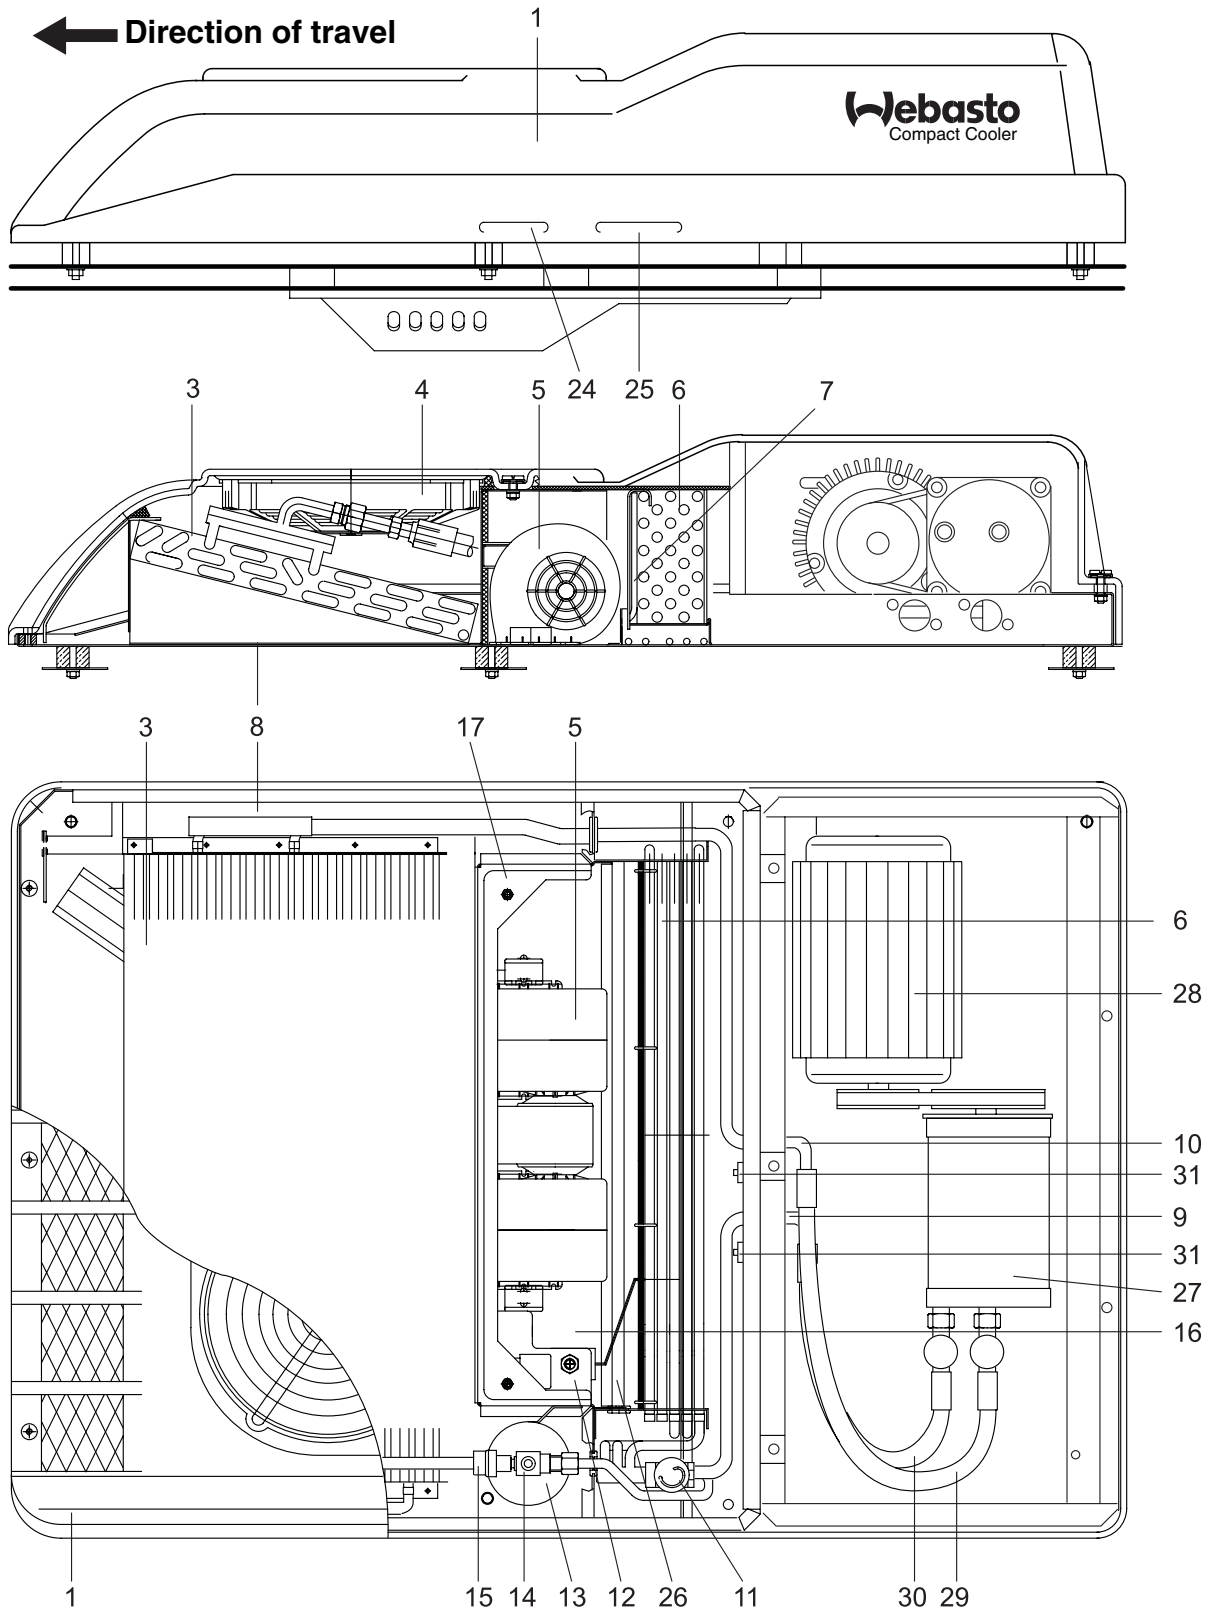
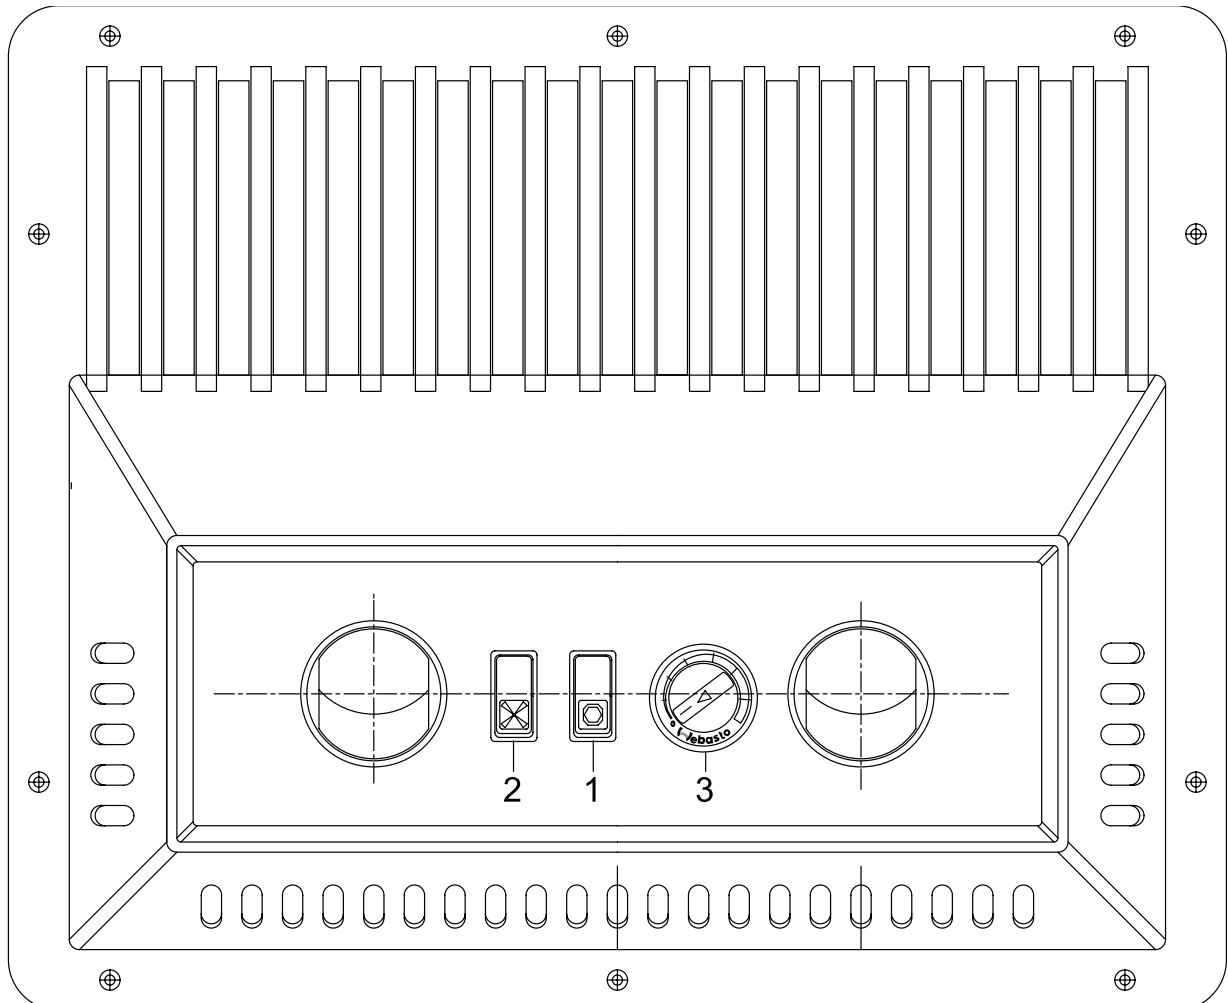

Fig. 2.2
Fig. 2.3
The roof-top unit is shown in Fig. 2.2.
The roof-top air-conditioning system is supplied with air distribution panel (Fig. 2.3) in addition to the roof-top unit. The following operating elements: ON / OFF rocker switch (1) and fan rocker switch (2) can be integrated into the air distribution panel.
An electronic room thermostat is additionally integrated into the roof-top unit in the deluxe version. A setpoint potentiometer (3, Fig. 2.3) is supplied for setting the temperature and can be integrated into the air distribution panel.
Rainwater entering the roof-top system is discharged via the drain outlet (24, Fig. 2.2).
The condenser (3, Fig. 2.2) consists of a continuous pipe coil and fins interconnected to form a large heat exchanger surface.
The receiver-drier with viewglass (13, Fig. 2.2) is an expansion and storage reservoir for refrigerant. Its lower part contains a granulated desiccant which extracts and chemically binds small amounts of water from the refrigerant. This reduces the risk of ice forming on the expansion valve and protects the compressor against damage. During operation, the level can be checked in the viewglass (14, Fig. 2.2) to ensure that there is sufficient refrigerant in the circuit.
The thermostatic expansion valve (11, Fig. 2.2) regulates the flow of refrigerant to the evaporator as required and in accordance with the temperature in the evaporator. The thermostatic expansion valve represents the control element between high and low-pressure part of the refrigerant circuit.
The evaporator (6, Fig. 2.2) is basically of the same design as the condenser. The refrigerant flowing through the pipe from the expansion valve changes from the liquid to the gaseous state and superheats in the evaporator.
The required evaporation heat is extracted from the cabin air flowing through the fins and is transmitted through the pipe to the refrigerant. The air dries as it cools and condensation water is drained overboard. The mist separator (7, Fig. 2.2) prevents droplets of condensation being drawn in by the radial fan and entering the interior of the vehicle.
The pressure switch (15, Fig. 2.2) includes a high-pressure and a low-pressure switch. It monitors the pressure in the high-pressure part of the refrigerant circuit and switches off both the electric motor and the compressor if the pressure is too low (e.g. due to loss of refrigerant) or too high (e.g. due to overheating in the condenser).
The anti-icing switch (12, Fig. 2.2) is a temperature switch. It measures the temperature between the evaporator fins and switches off the power supply to the electric motor if there is any risk of ice forming (approx. 0 °C) and back on again at approx. 3 °C.
The two axial fans (4, Fig. 2.2) comprise a DC motor, fan wheel, housing and protective grille. When the air-conditioning system is switched on, they draw a constant supply of power from the on-board system via relay K1 (Fig. 3.1) and supply the condenser with the required outside air.
The radial fan (5, Fig. 2.2) contains a multi-speed DC motor. It draws the cabin air through the evaporator and blows the air back into the cabin via the nozzles in the air-distribution panel (Fig. 2.3).
The compressor (27, Fig. 2.3) comprises a swashplate compressor and a magnetic coupling with belt pulley. It is driven at constant speed by an electric motor (28, Fig. 2.2). When in operation, it compresses the refrigerant to the required condensation pressure.
The electric motor (28, Fig. 2.2) drives the compressor via a poly-V-belt. The electronic system in the motor includes a soft-start function to prevent current peaks being transmitted to the on-board supply. In addition, the electric motor is switched off automatically in the event of undervoltage (< 20 V for more than 10 seconds) or overload (current consumption > 80 V for more than 1 second) due to possible damage to the system. It is restarted by repeatedly switching on the system.